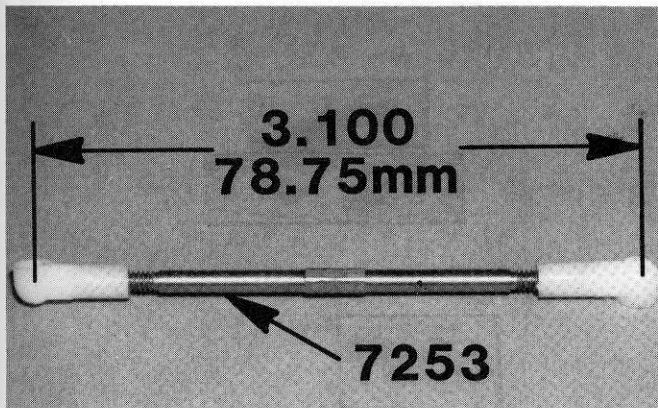

**Fig. 98**
□ **Figs. 98 & 99** From Bag 7-8, take the #6372 dogbone spring and install it inside the #6374 outer axle. Then align the slots and slip the #7361 dogbone in place. (Note: the technical term is 'rear half shaft', but 'dogbone' is more popular among racers.) Do the right hand side.